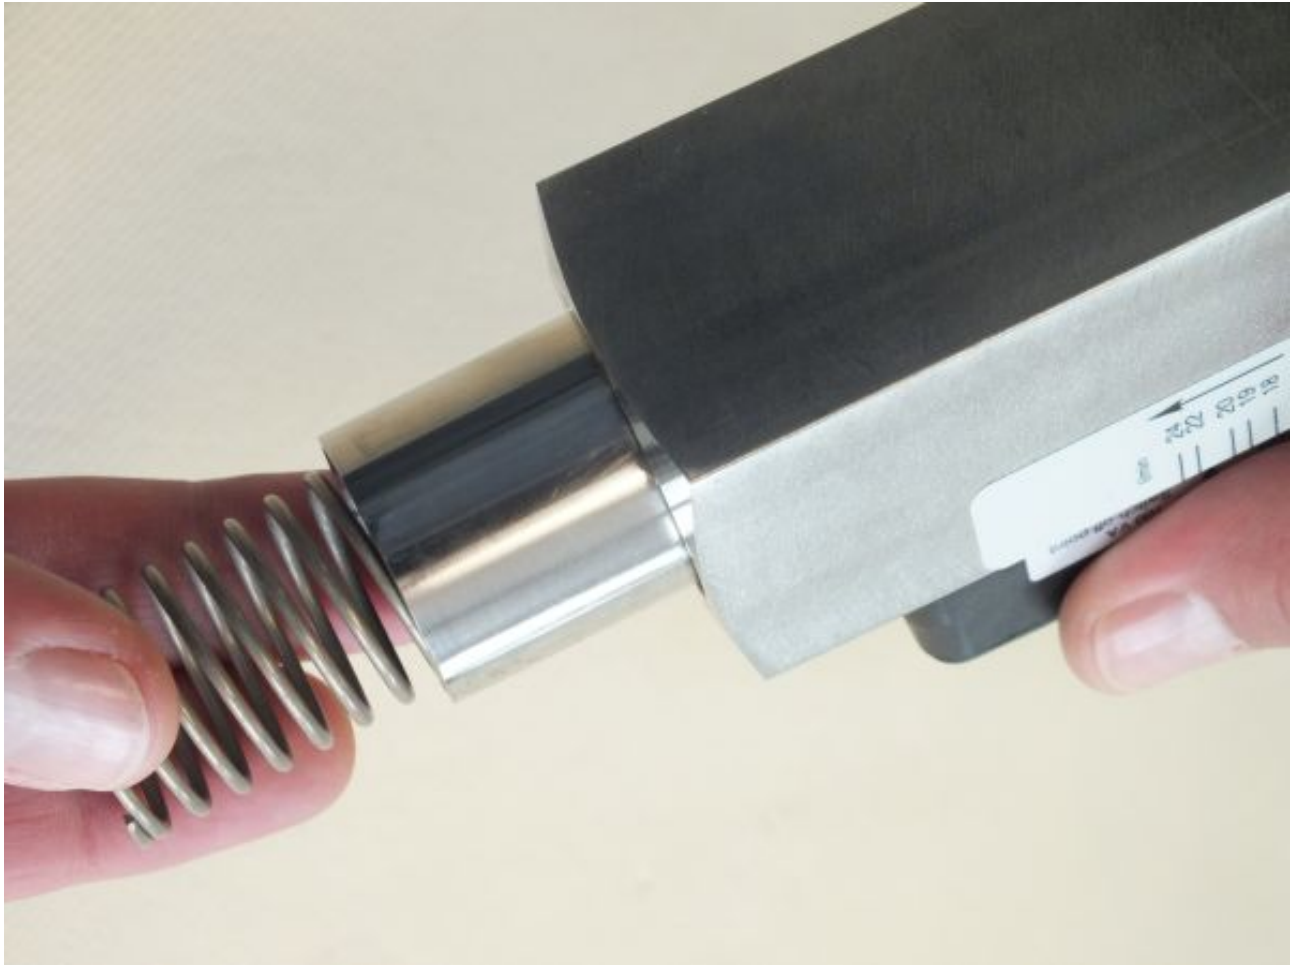

Fig. 46: Remove inner parts
6. Carefully turn the device body 180° and remove the inner parts (float, magnets and spring) (*Fig. 46*)